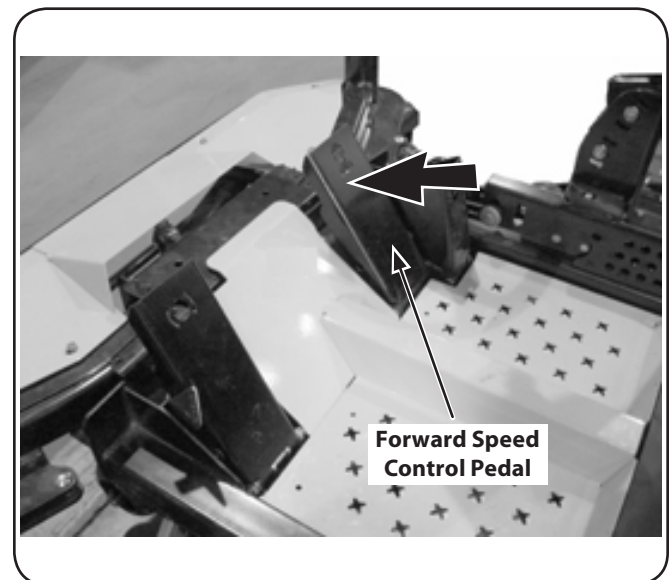

Figure 5-1
1. Slowly push the forward speed control pedal forward. The tractor will start to move forward. See Fig. 5-1.